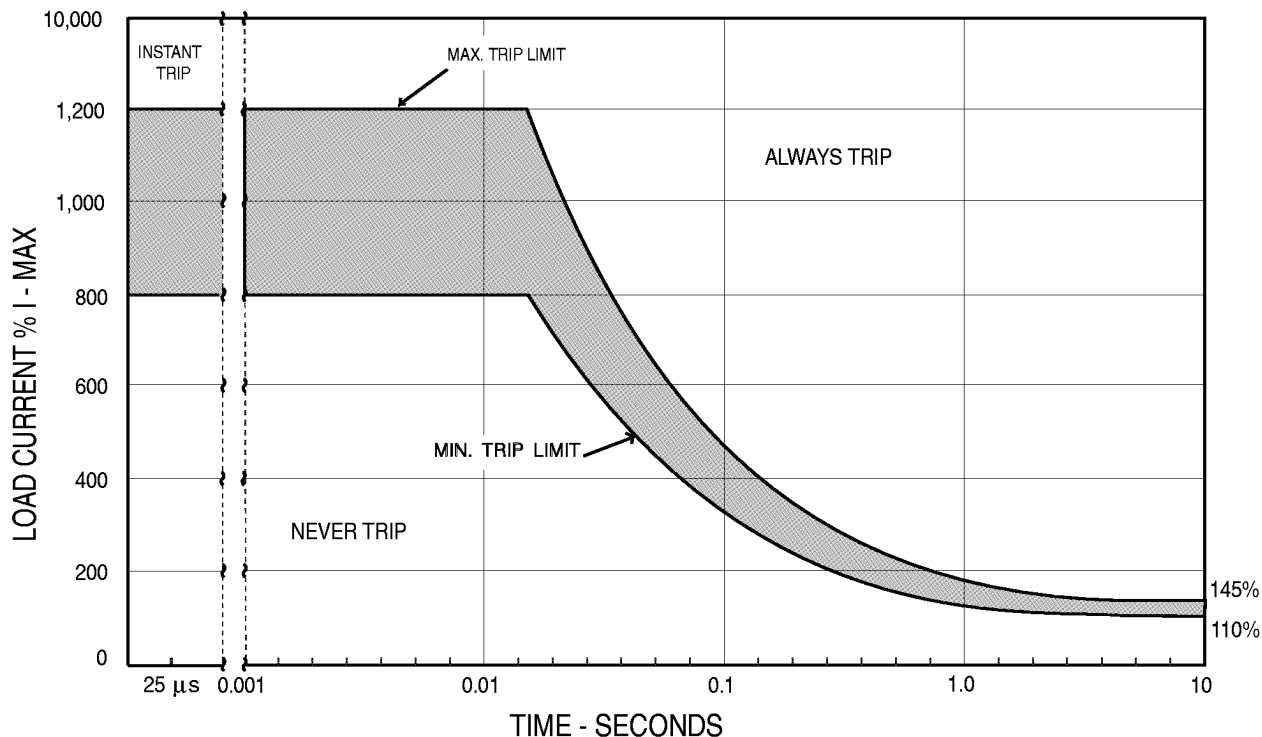

FIGURE 2. TRIP CHARACTERISTICS
Trip Characteristics	see FIGURE 2
As in a circuit breaker, the SSPC's time to trip depends on the current level. Slight overloads will cause longer trip times. Heavy overloads will cause shorter trip times. The fault ("Instant Trip") and I²T trip curve (see FIGURE 2) shows the trip time as a function of current for a single trip or repetitive trips with at least 10 seconds between trip and turn on. Attempts to repeatedly turn on into an overload will result in the thermal memory shortening each trip time. This "memory" protects the wire, load and Solid-State Power Controller.
For load currents less than 800%, the trip time can be found from FIGURE 2 by drawing a horizontal line on FIGURE 2 at the current level of interest. The SSPC will always trip at a time between the two curves. This is true I²T tripping.
For load currents greater than 1200%, the SSPC will turn off in less than 25 μs. Between 800% and 1200%, the SSPC will turn off in a time less than the "max. trip limit" shown in FIGURE 2 and may turn off in less than 25 μs. When the SSPC turns off under these fault conditions, the fall time is less than 25 μs.
3) Any trip condition per FIGURE 2.
Capacitive loads require comparing the load in-rush current to the trip curve of FIGURE 2. The inrush current must be below the minimum trip curve to avoid tripping on the inrush current. The inrush current can be calculated from the voltage rise time by using $i=C \cdot dv/dt$. Use the minimum rise time for calculation. The minimum rise time is 25% of the maximum rise time specified in FIGURE 3.